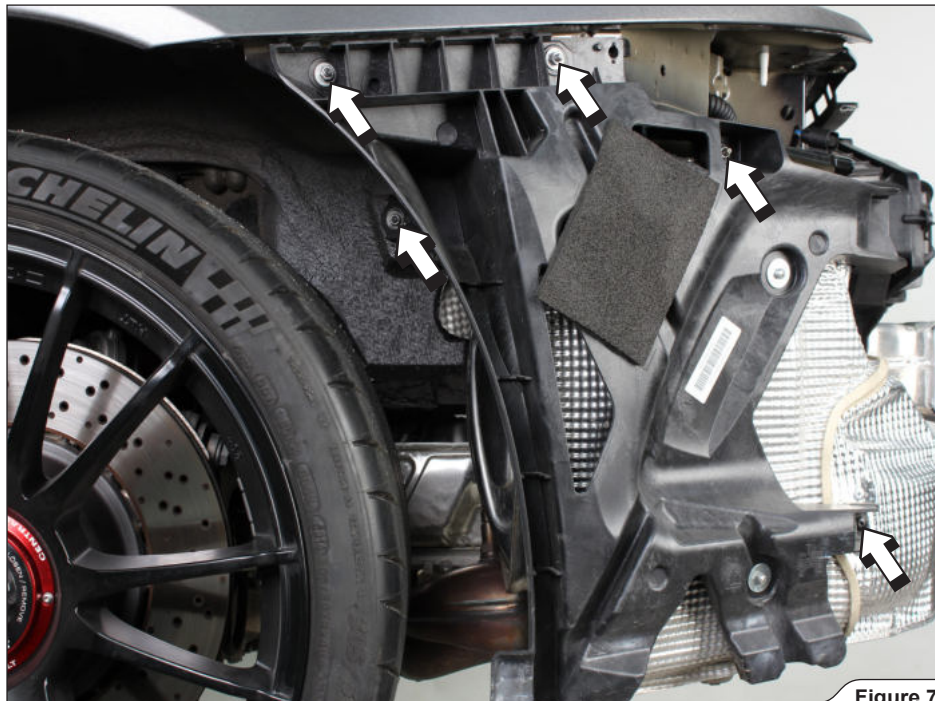

Figure 7
7. Unscrew the marked bolts, on both sides of the vehicle and remove exhaust heat shields (**Figure 7, 8**).